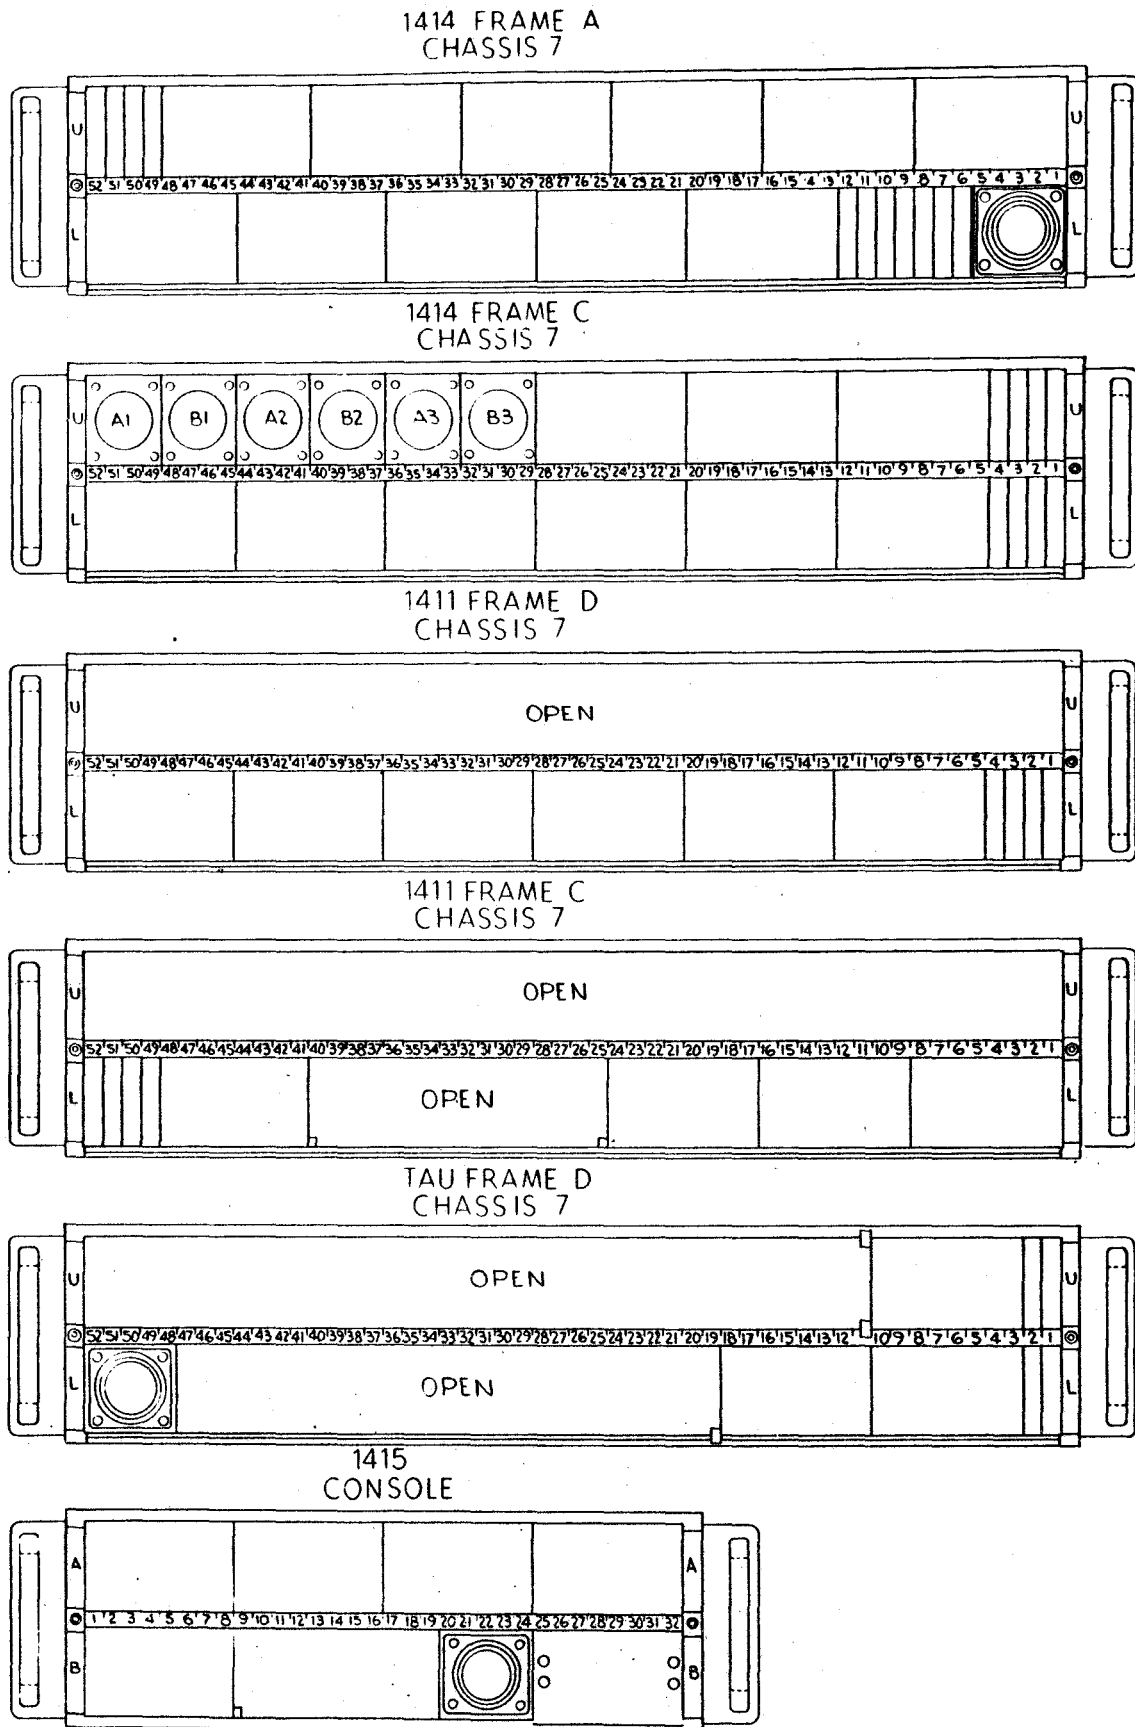

FIGURE 3-5 CONNECTOR ASSEMBLIES
- A. The external cables are plugged into the connector racks (Table 2-1 and Figure 3-5). The cables should pass over the clamp mounting bars. Each paddle card is properly labeled to identify the plugging location in the connector.
To expose the 1415 Console connector rack assembly (Figure 3-5) open the modesty panel (left side from rear), and left rear panel by pulling out the two plungers located in the channel rail directly under each panel. Remove these panels by pulling the plungers at the pivot points. Before connecting the external cables to the bottom rear of the console, slip the cable chute over the cables, connect the cables as labeled and secure to the bottom rail with clamps to eliminate any strain on the connectors. The following instructions should be followed in installing the I/O printer:
The cables from various frames that plug into connectors on chassis 7 and terminal blocks of frame A (See Figure 3-5) should be clamped as follows from left to right starting with the third clamping position.